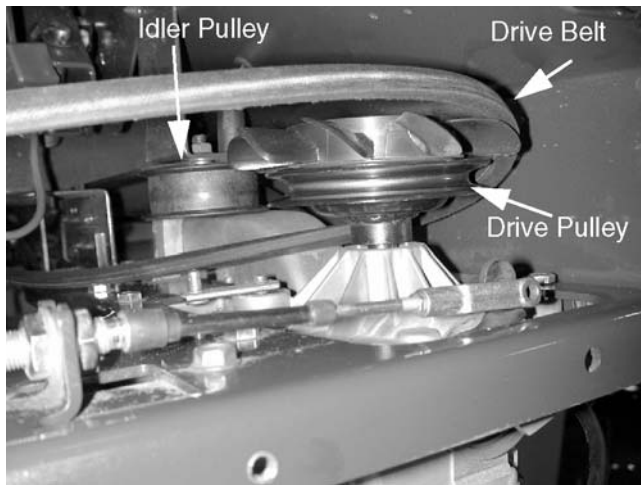

**Figure 11-18**
13. Remove the rear cover. See Figure 11-18.